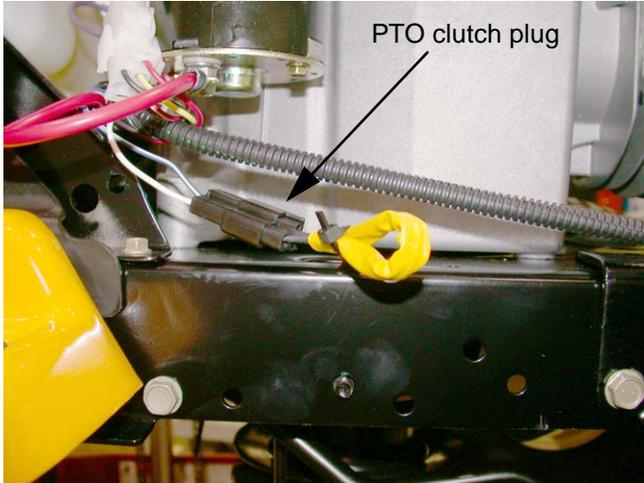

Figure 17.11
17.11. Disconnect the plug for the PTO clutch wire. It is located on the right side of the tractor, just above the opening in the frame that the wire passes through to reach the PTO clutch. See Figure 17.11.